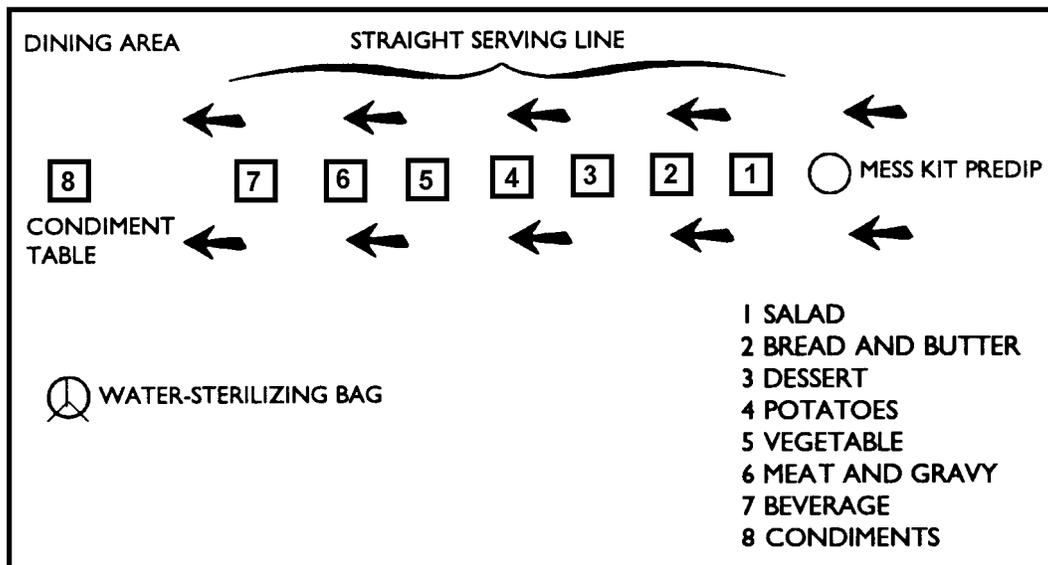

Figure 2-3. Serving lines when attack is unlikely.
- (1) Place serving tables about 3 feet apart.
- (2) Set up a one way, straight serving line. (See Figure 2-3.)